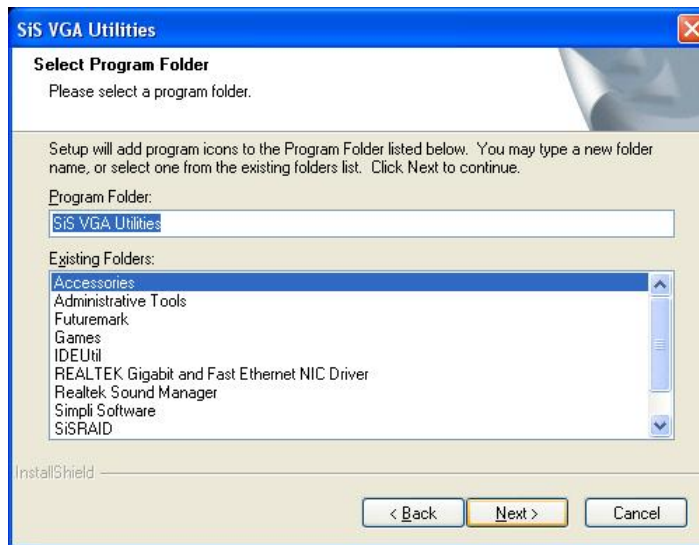

Figure 6-15: Select Folders to Copy Files
- Step 4:** Select a folder to copy the files in (**Figure 6-15**). Once the setup type is selected, click on the **NEXT** button.